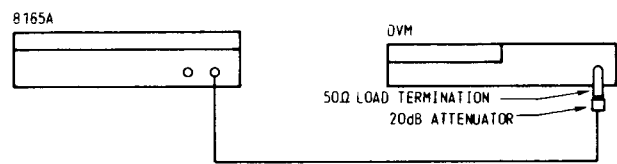

Figure 4–2. Test Setup for Amplitude and Offset.
- 3. Use figure 4–1 test setup and set counter to START.
1. Connect the equipment as shown in Figure 4–2.